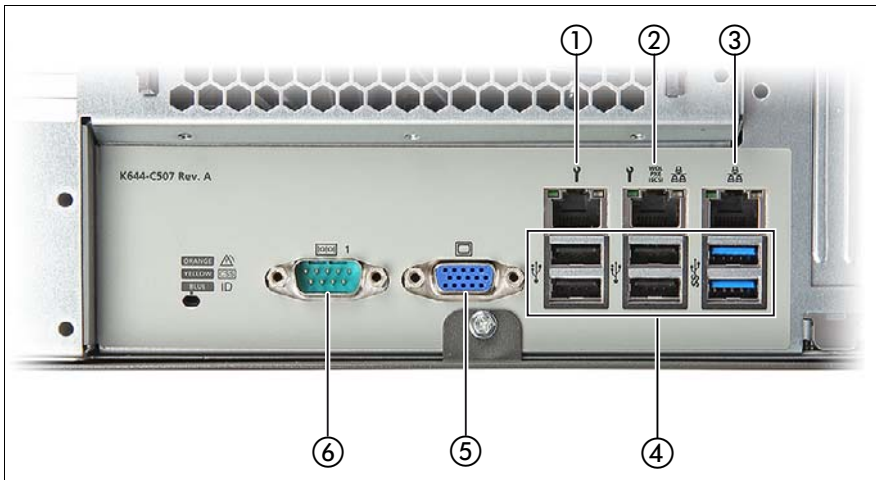

Figure 2: Connector panel on the rear side
- ▶ Connect the monitor to the video connector of the server (see figure 2 on page 52).